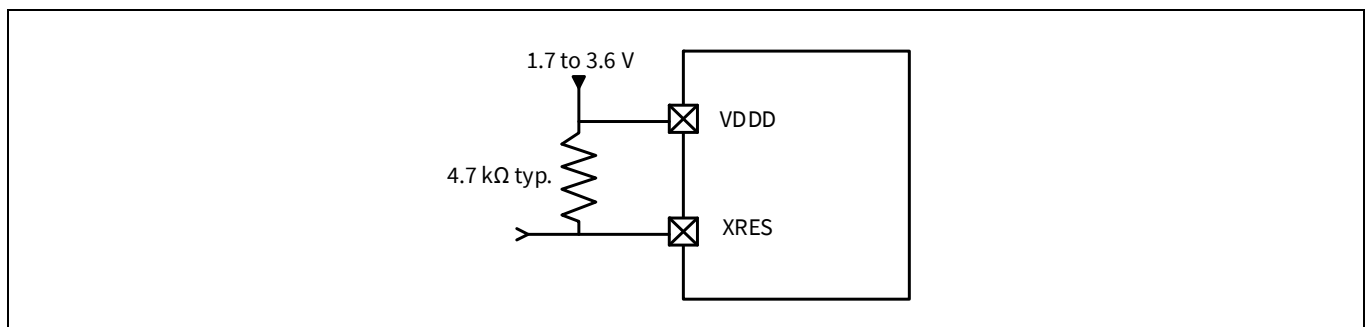

Figure 4 XRES connection diagram
- External reset dedicated pin (XRES) to reset the device using an external source. The XRES pin is active LOW and has a weak internal pull up of 85 kΩ. An optional 4.7 kΩ pull up resistor can be connected to VDDD as shown in Figure 4.